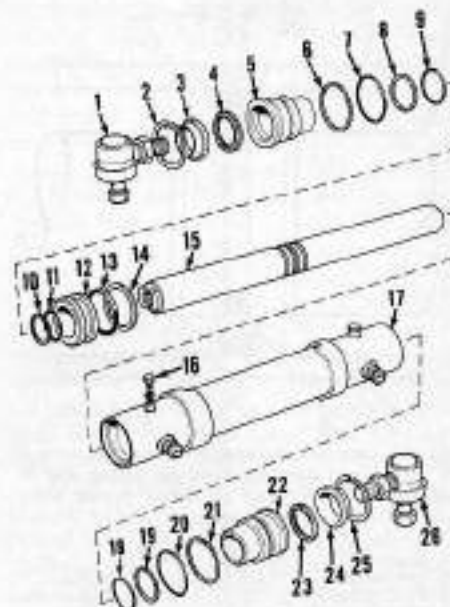

Fig. 41—Exploded view of steering cylinder used on models equipped with David Brown front drive axles.
85. Clear cylinder of oil as necessary by moving piston rod through its complete stroke. Remove tie-rod ends (1 and 26—Fig. 41) and snap rings (2 and 25). Push cylinder rod (15) out of tube assembly (17). Remove sleeve assembly (5) which remained in tube assembly (17) and sleeve assembly (22) which came out on rod (15). Remove snap ring (10) and